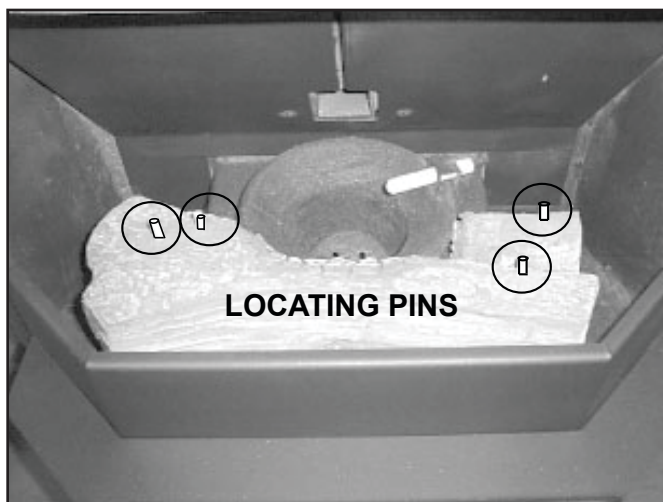

Figure 22.1
1. Place the front log in first as shown in **Figure 22.1**. Place log between firepot and face of appliance with charred area surrounding firepot.